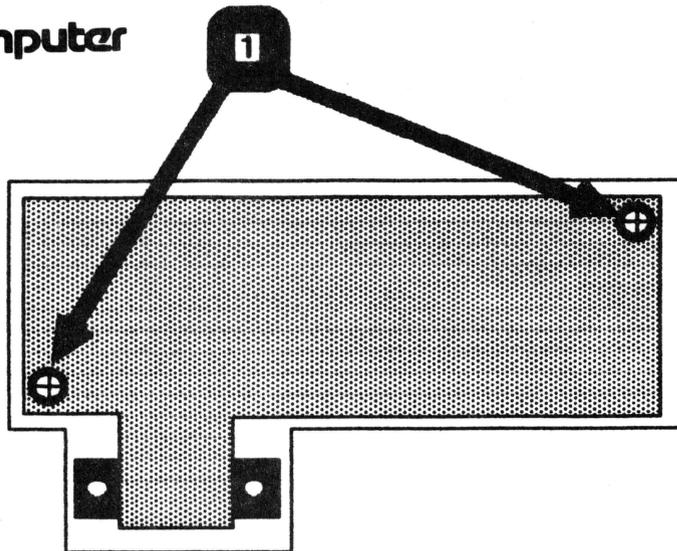

FIGURE 8
3. Remove the two Phillips screws (Figure 8, #1) which secure the metal connector box to the case.
4. Replace the screws (Figure 8, #1) to secure the connector box to its plastic case.